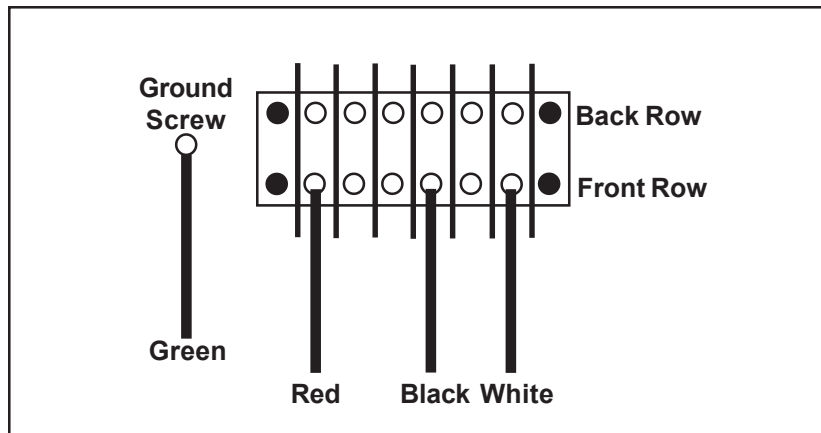

Figure 44. Power Pack Electric Cord Wire Connections
2. Connect the four wires to the terminal strip as shown in Figure 44.